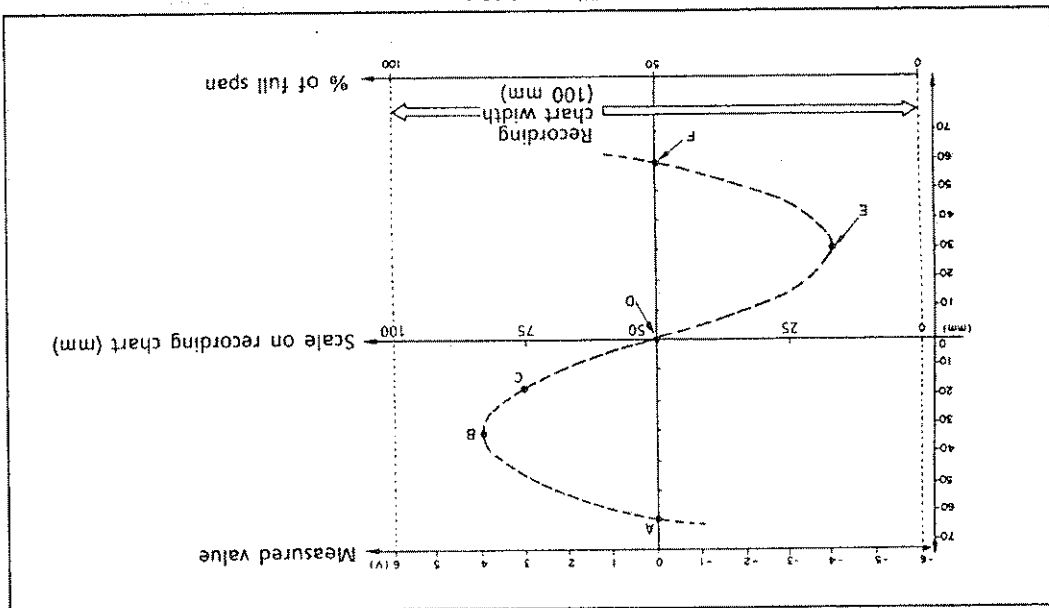

Figure 6.10.1
• Figure 6.10.1 shows normal recording with a 100mm span. Here the 0V point is positioned 50 mm (50% of span) from the chart paper left margin. (The 100mm has been set for the full span of the measured value (-6 to +6V).)